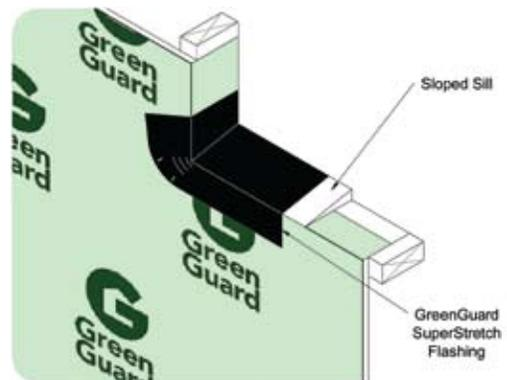

FIGURE 2A: INSTALLATION OF SLOPED SILL
- Optional Sill Flashing Method No. 2:* Install a sloped sill directly over the building wrap at the sill and then install the GreenGuard SuperStretch Flashing as described in Method 1 (see Figure 2A).